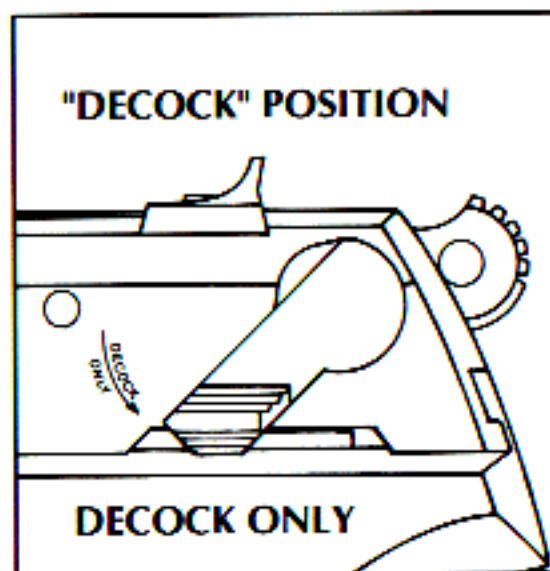

FIGURE 1
To decock the pistol, point the pistol in a safe direction. Depress the decocking lever until the hammer drops. The decocking lever first moves the firing pin into the slide far enough so that the rear end of the firing pin cannot be struck by the hammer. Only then will continued depression of the decocking lever safely drop the hammer to an uncocked position (see Figure 1). To return the pistol to firing condition, simply release the decocking lever (see Figure 2). It will spring upward to its original position. The pistol is then ready to fire by a "double-action" pull of the trigger. The hammer can also be manually cocked immediately before shooting a "single-action" firing. The trigger pull is both shorter and relatively lighter in the "single-action" mode, which is preferred for more accurate shooting.
1. The muzzle of the pistol must be pointing in a safe direction at all times, and fingers should be outside of the trigger guard. Decock the pistol by depressing the decocking lever until the hammer drops (See Figure 1, p. 6).